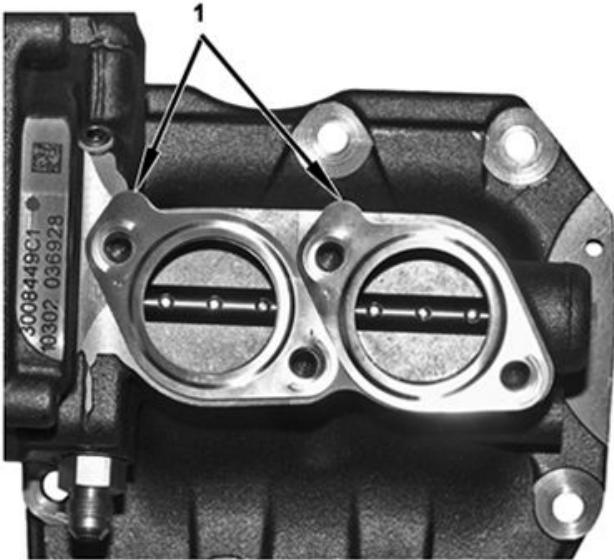

Figure 28. EGR Inlet Tube Gasket.
7. Install new EGR inlet tube gaskets with tabs pointing up (Figure 28, Item 1).